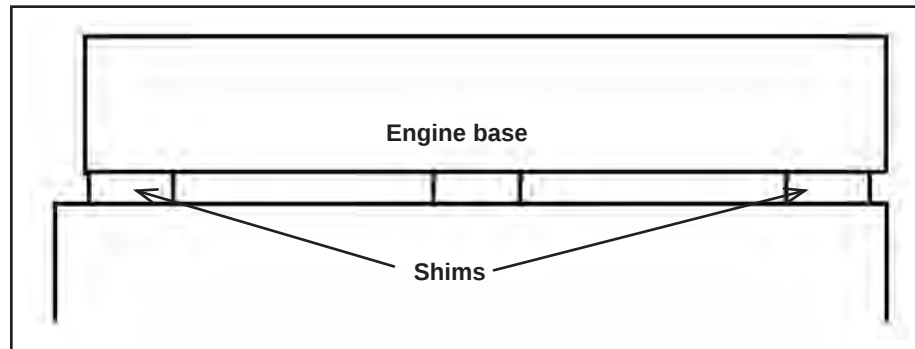

Figure 7-12: Level Engine Base With Natural Sag Removed
- If the dial indicator has not been moved or bumped, it should read positive by the amount indicated above, compared to when it was first zeroed. The engine base is now level with all the natural sag removed (see "Figure 7-12: Level Engine Base With Natural Sag Removed").